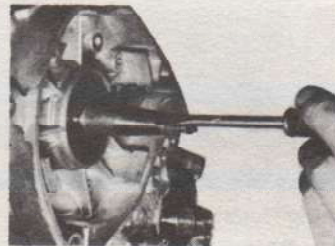

Fig. 3-26
4. Pry out the woodruff key with a screwdriver. (Fig. 3-26)